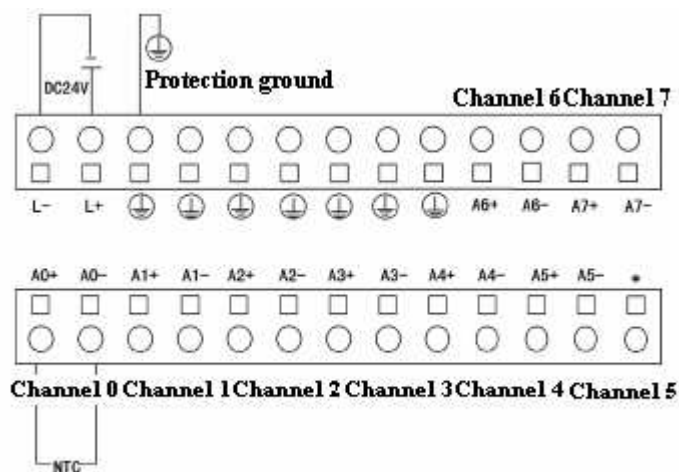

Figure 3-2-25 LM3314 Terminal Definition & Wiring
- This module can measure NTC signals of 8 channels, see Figure 3-2-25, A0+ and A0- are input terminals of NTC channel 0 respectively, the rest channels are similar;